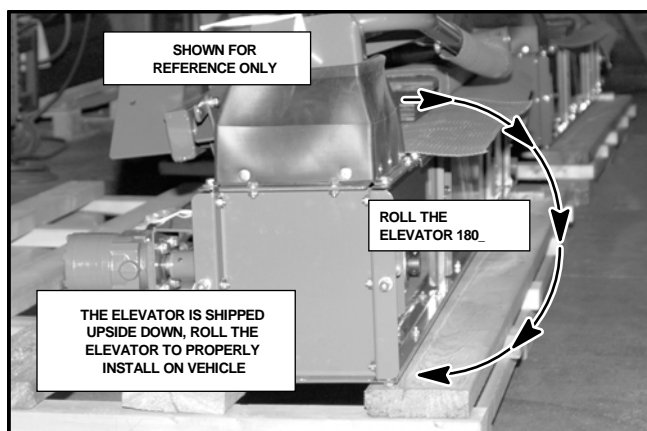
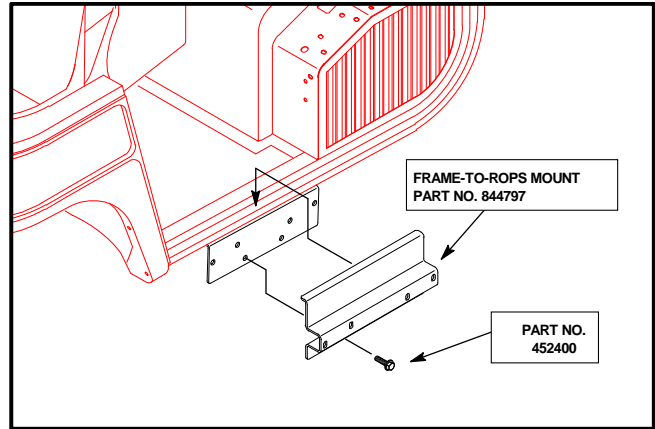

Figure 3
Figure 9
2. Pivot the push tube assembly to the front of the elevator and allow push tube to rest on floor. Roll the elevator 180° so the shock and main pivot shaft are on the bottom (the shock, main frame and main pivot shaft will pivot unless they are secured to the elevator, you may want to attach banding or straps to these items so they do not pivot as the elevator is being rolled or raised) (See Fig. 3).
2. Attach the green bracket (Frame-to-ROPS Mount, Part No. 844797) to the mount bracket as shown in Figure 3. Secure using two (2) M10-1.50 x 30 screws (Part No. 452400). **Do Not** tighten, the hardware will need to remain loose for adjustment when the elevator is installed (See Fig. 9 & 10).